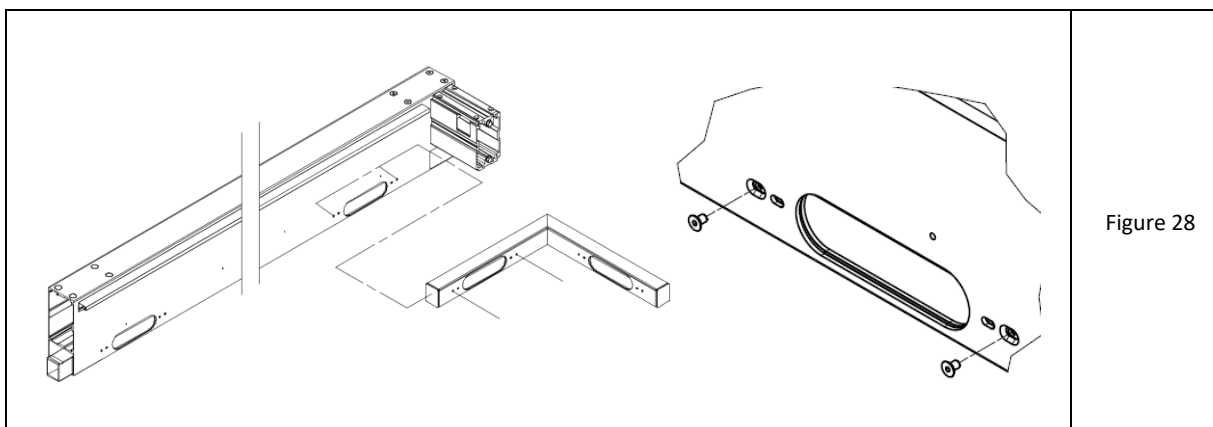

Figure 28
2. To one end of each of the crossbeams (from the side cutout of the wall in the lower chamber - below the bone) attach an angular overflow (fig. 28 - left). At the opposite end, these beams have a straight drain.
4. When inserting the profile avoid abrasion of the sealing layer and apply EPDM to the beam wall only after aligning the contours of the holes. Tighten the overflow with 2 countersunk screws M5x8 (in external oval holes with deepening) (fig. 28-right).
9. When inserting the profile avoid abrasion of the sealing layer and apply EPDM to the beam wall only after aligning the contours of the holes. Tighten the overflow with 2 countersunk screws M5x8 (in external oval holes with deepening) (see fig. 28-right).